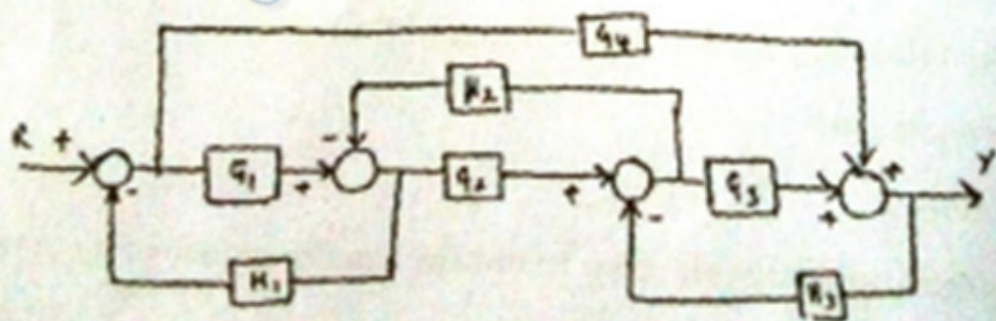

Figure 2
12. (a) For the block diagram show in Figure 2, carryout the following : (4 + 12)